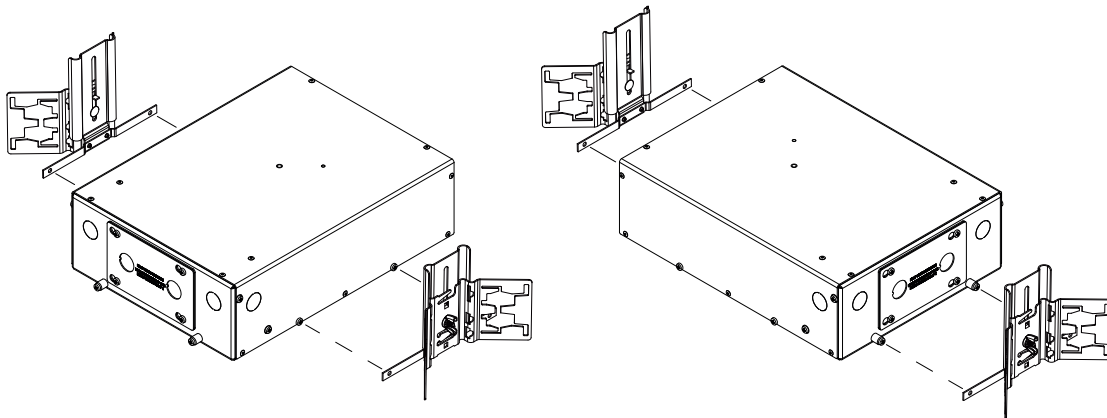

FIG 5.2 Butterfly Bracket/Housing Position
STEP 1 Attach Butterfly Brackets to either ends or sides of mounting frame using existing screws - **FIG 5.2.**